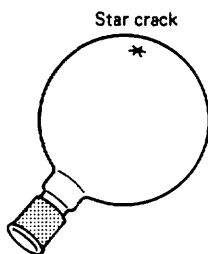

Fig. 20 R.B. flask with star crack.
1. **Star cracks.** A little-talked-about phenomenon that turns an ordinary R.B. flask into a potentially explosive monster. Stress, whether prolonged heating in one spot or indiscriminate trouncing upon hard surfaces, can cause a flask to develop a **star crack** (Fig. 20) on its backside. Sometimes they are hard to see, but if overlooked, the flask can split asunder at the next lab.